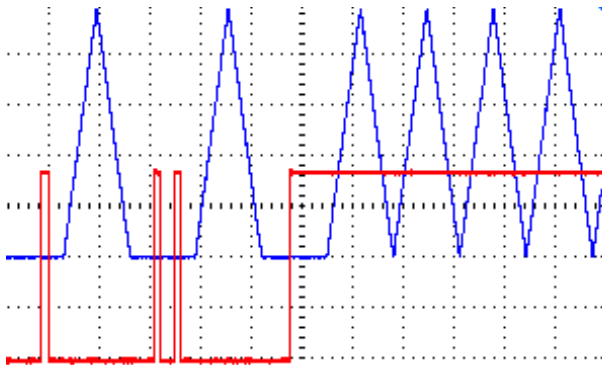

Figure 3a: Quantized QNT trigger
- QNT jack (Quantized)** — Apply a trigger/gate to this jack to cause an envelope to start **on the next ping clock**. The PEG will wait for the next divided/multiplied ping clock and then start the envelope. Holding a gate high on this jack causes the envelope to repeat. See *Figure 3a*. The envelope will complete at least one entire cycle. If a second QNT pulse is received while the envelope is running, a second envelope will be generated. If the channel is in Async mode, triggering QNT goes back to sync mode.